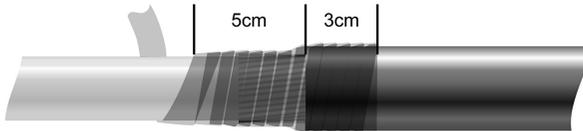

Figure 29.
- Over wrap back towards the Crimp end of the cable, again stretching the tape and with 50% overlap, leaving 5cm covering the Outer Copper Screen Wires and White XLPE Insulation and 3cm covering the Black PVC Outer Sheath. This should use approx another 50cm of the tape. Again, do not cut the tape. (Figure 29)